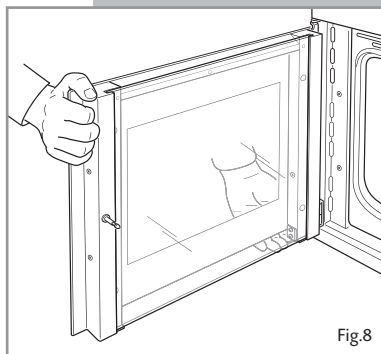
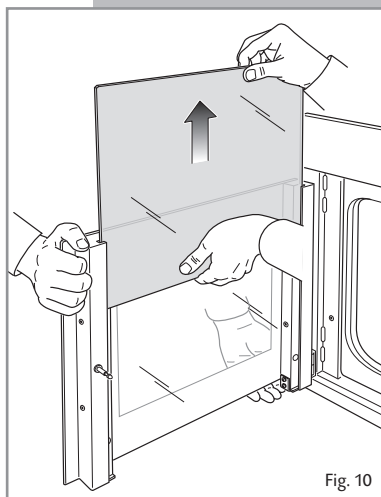

Fig.8
Fig. 10
**When removing and replacing the inner glass, the door should be held still by one person (fig. 8). A second person should gently remove the glass (fig. 10).**
- Gently pull out the inner pane of glass (Fig. 10.). Forcible removal of the door glass may lead to damage of the door hinges.